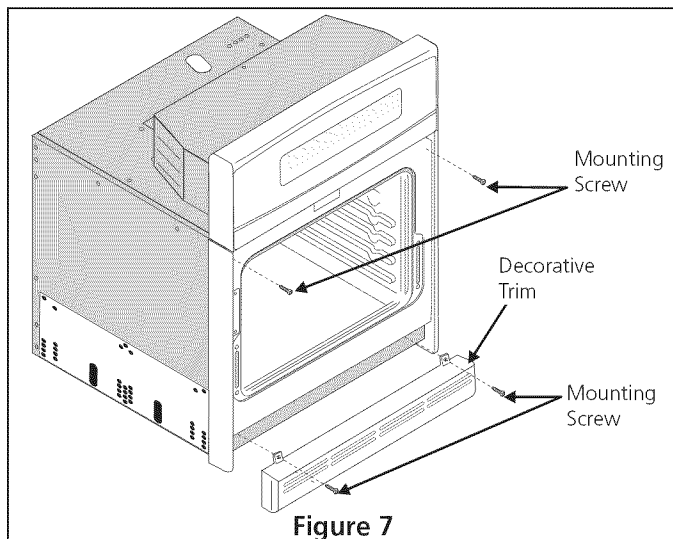

Figure 7
- A. The mounting holes in the side trims may be used as a template to locate the appliance mounting screw holes (see figure 7).
Place the top of the bottom trim over the side trim tabs on each side of the oven below the oven door and fix it using the 2 screws supplied in the mounting holes located on each side trim below the oven frame (see Figure 7).